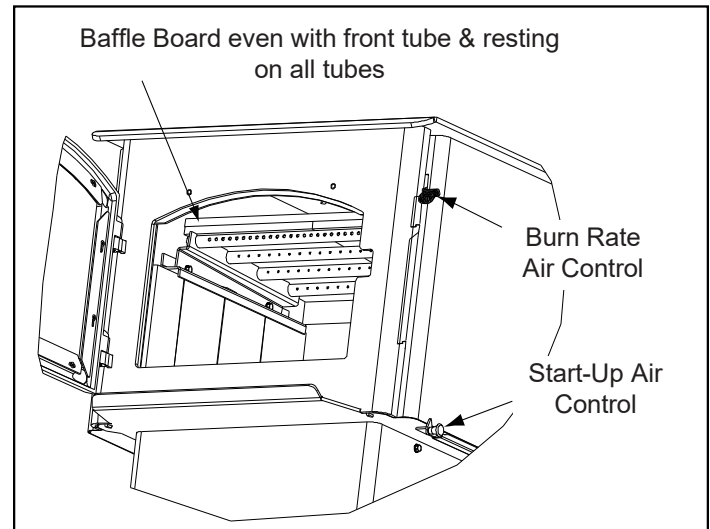
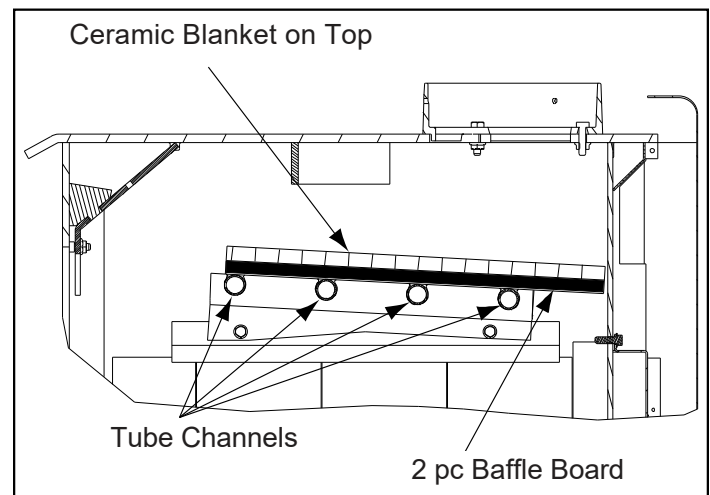

Figure 23.3
Figure 23.4
4. Re-install the baffle pieces one piece at a time. Be sure the baffle boards are even with the front manifold tube and is resting on all tubes (**Figures 23.3, and Figure 23.4**).